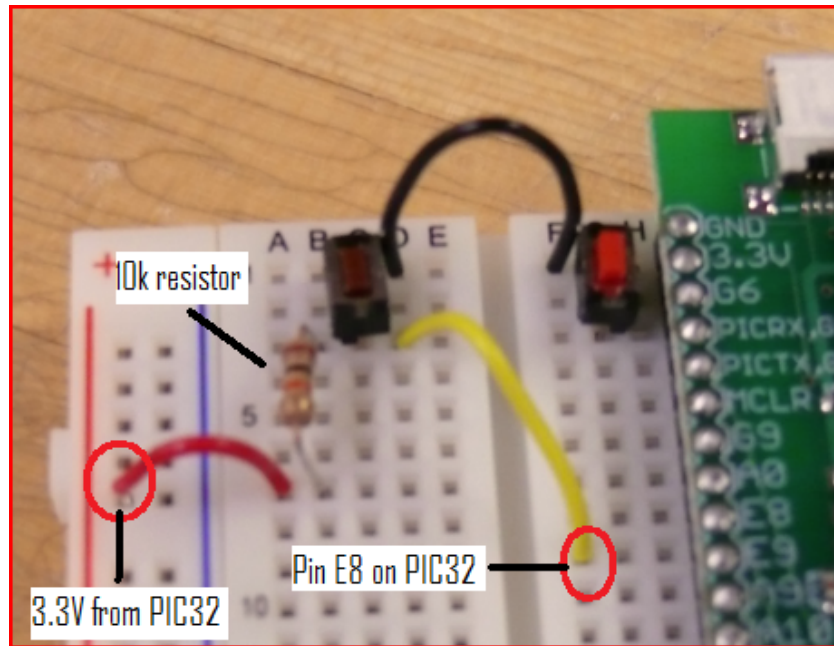

Figure 3: End of Step 8 of circuit assembly
- The left-hand side of your circuit should resemble Figure 3